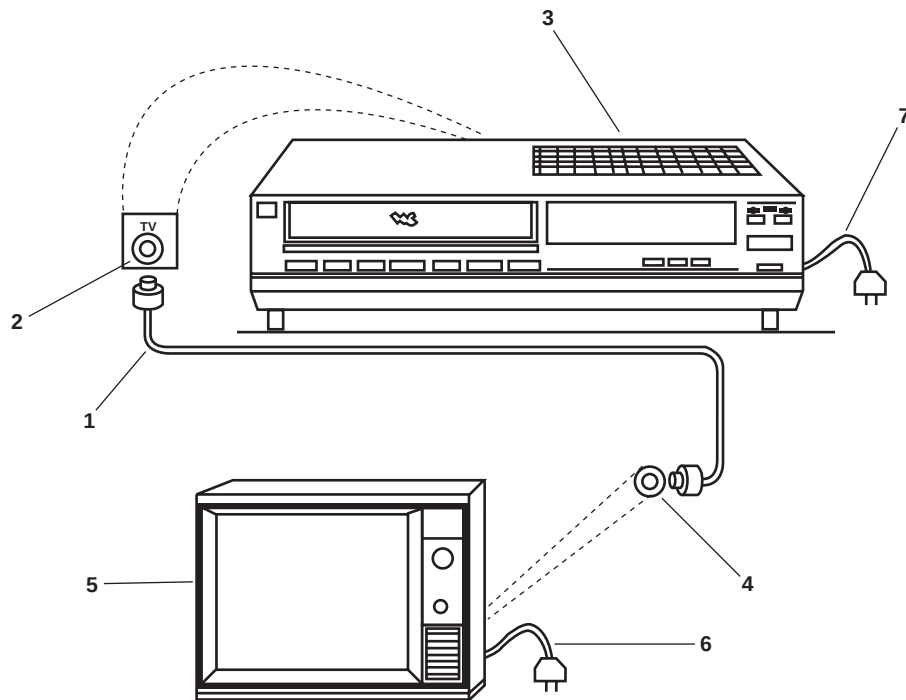

Figure 1. Entertainment System
1. Disconnect the cable (figure 1, item 1) from the TV jack (figure 1, item 2) on the rear of the VCR (figure 1, item 3) and from the input jack (figure 1, item 4) on the rear of the television (figure 1, item 5).
2. Remove the VCR (figure 1, item 3).
3. Remove the television (figure 1, item 5).
1. Install the VCR (figure 1, item 3).
2. Install the television (figure 1, item 5).
3. Connect the cable (figure 1, item 1) into the input jack (figure 1, item 4) on the rear of the television (figure 1, item 5) and into the TV jack (figure 1, item 2) on the rear of the VCR (figure 1, item 3).
4. Install the television plug (figure 1, item 6) and the VCR plug (figure 1, item 7) into the wall outlet.